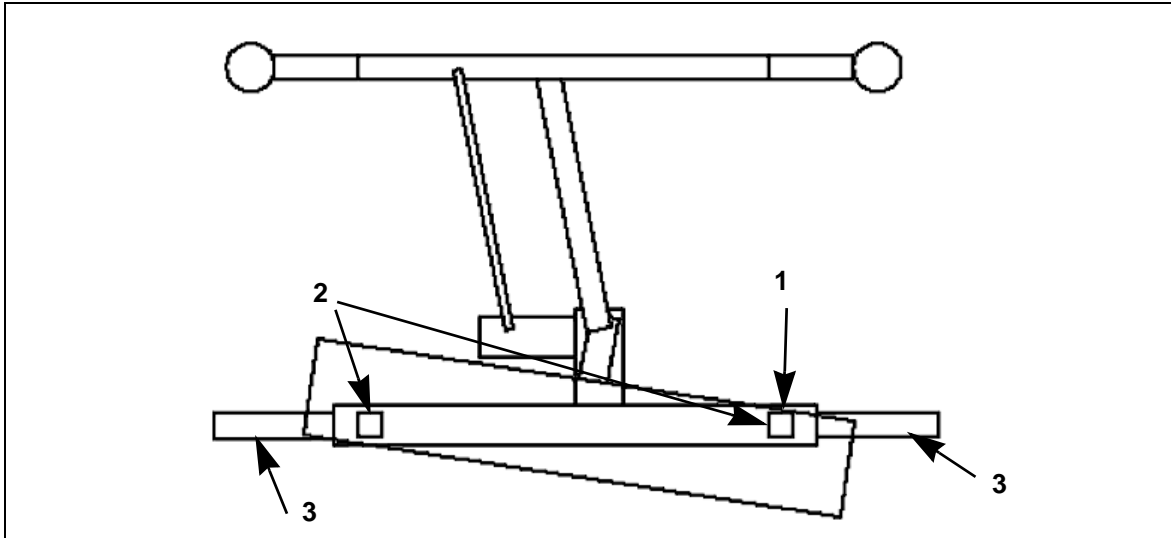

Fig. 26: Adjusting the tracker
3. If necessary, adjust the tracker at the main front surface (1, Fig. 26) to the correct conveyor belt guide.
4. Loosen the set screws (2, Fig. 26), which secure the telescopic pipe (3, Fig. 26).
5. Move the main front surface (1, Fig. 26) as much as possible in the direction in which the conveyor belt is meant to be moved.
6. Tighten the set screws again (2, Fig. 26).